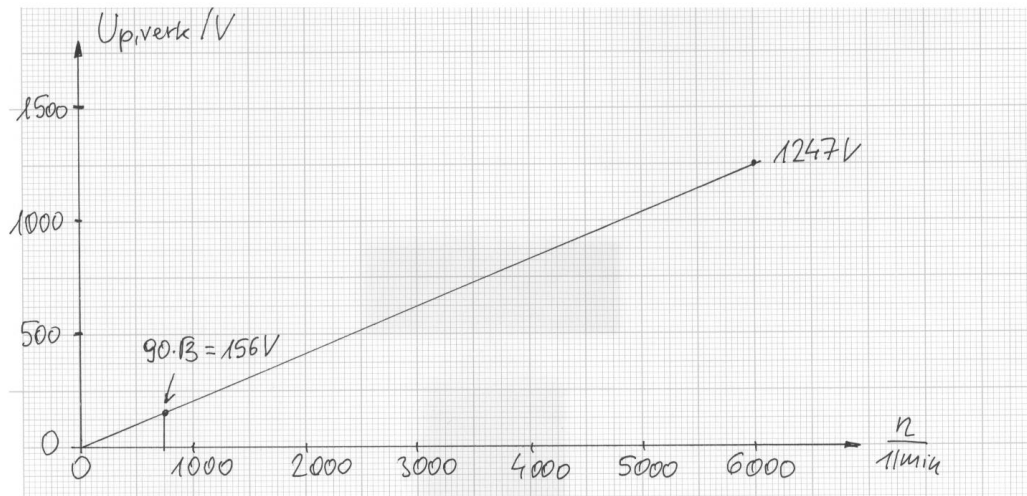

Fig. 27-2: Back EMF (r.m.s., line-to-line) versus speed, measured at open circuit, no-load generator operation
Line-to-line voltage (Y): $U_{p,LL} = \sqrt{3} \cdot 720 = 1247 \text{ V}$... Diagram $U_{p,LL}(n)$: Fig. 27-2